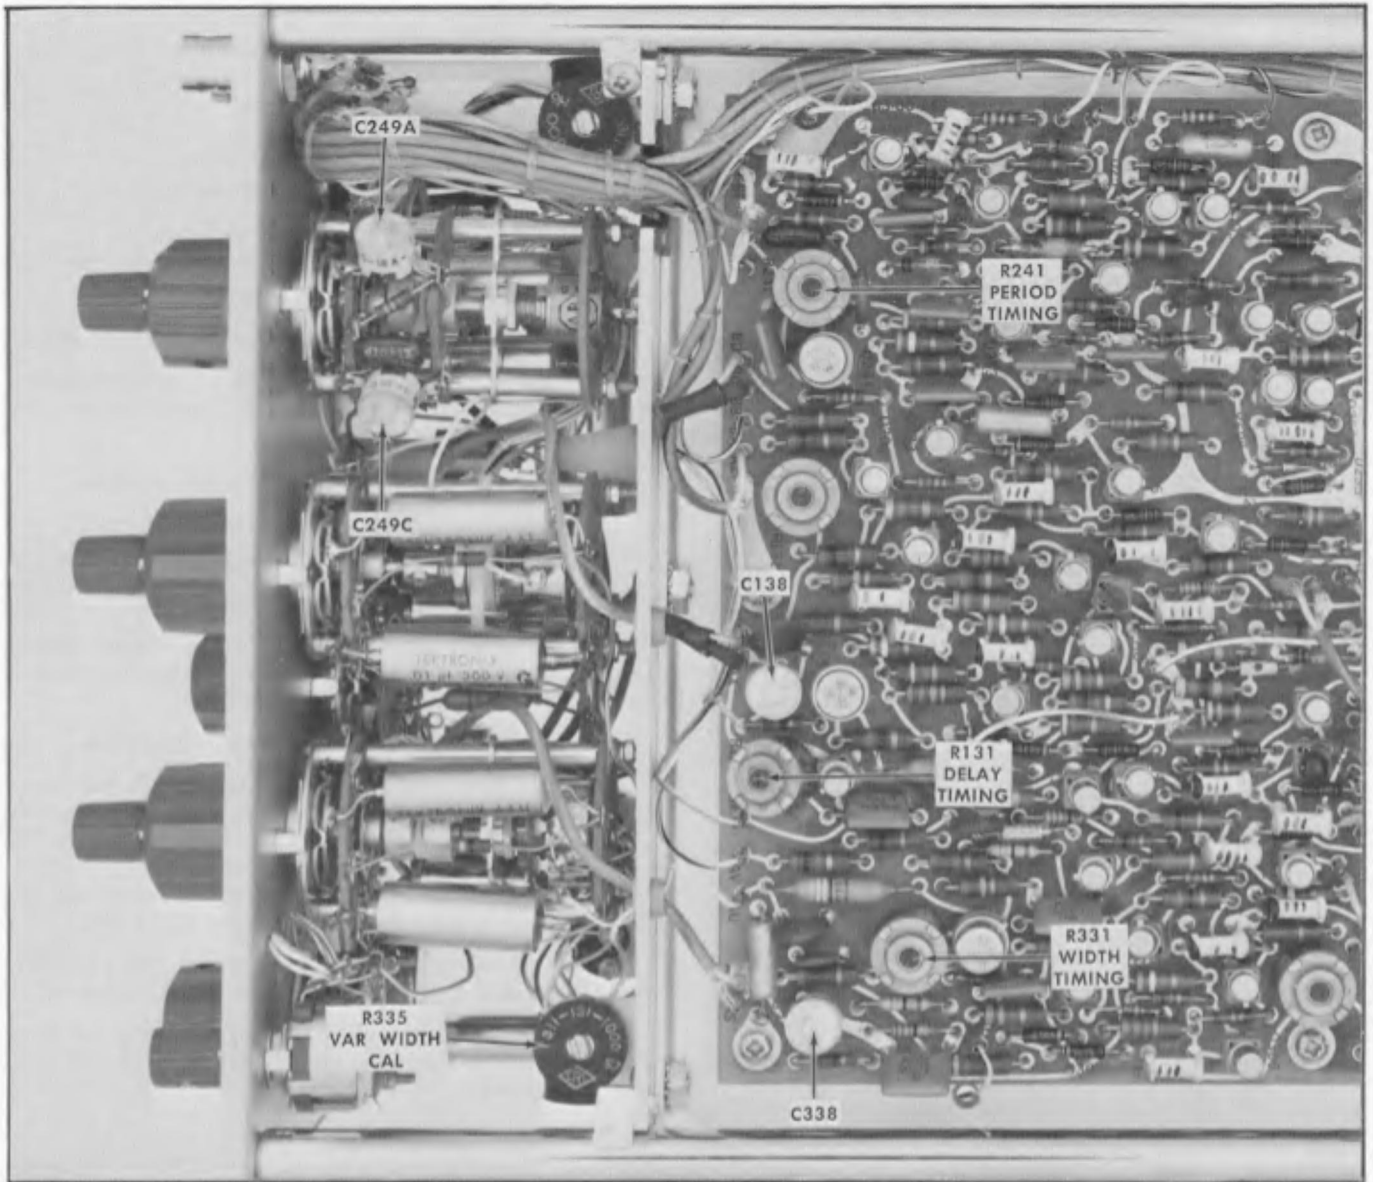

Fig. 5-19. Top circuit board: Location of adjustments used in steps 21 through 25.
- g. ADJUST—R331, WIDTH TIMING adjustment, (see Fig. 5-19) for a pulse width of 550 μ s (5.5 cm) if the display is not correct.
- l. ADJUST—R335, VAR WIDTH CAL adjustment, (see Fig. 5-19) if the display is not correct.
- s. ADJUST—C338 (see Fig. 5-19) if the display is not correct.
- f. ADJUST—R131, DELAY TIMING adjustment, (see Fig. 5-19) for a delay interval of 550 μ s (5.5 cm) if the display is not correct.
- v. ADJUST—R134, 50 ns CAL adjustment, (see Fig. 5-21) and C138 (see Fig. 5-19) if the display is not correct.